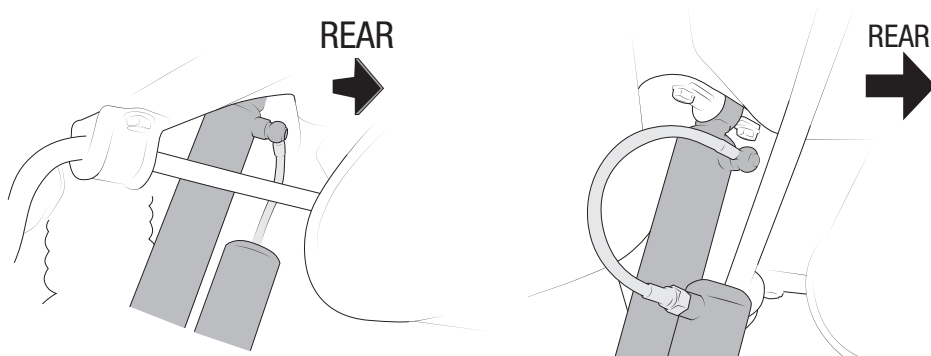

Figure 8
14. Install new shocks at upper mount. **NOTE: If installing Remote Reservoir Shocks, refer to Figure 8 for proper orientation to prevent damage to reservoir hose. It is critical that the hose for the remote reservoir shocks do not come into contact with any other parts. Remember that the shock will move as the axle travels through its range of motion, so you must be very diligent in the routing of this hose.**